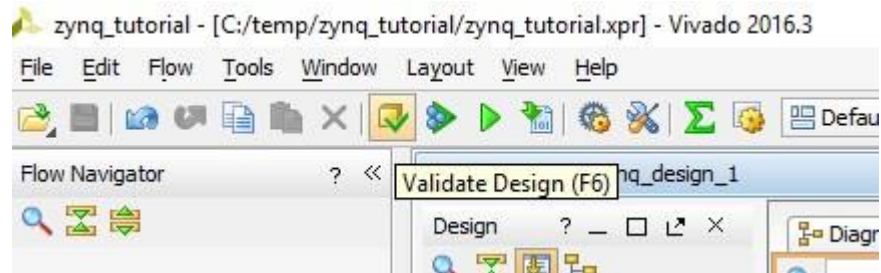

Figure 17: Validating the design.
4. From the toolbar, runDesignRulesCheck by clicking the **Validate Design** button (Figure 17). Alternatively, you can select Tools → Validate Design from the menu, or you can right-click in the workspace and select **Validate Design**.